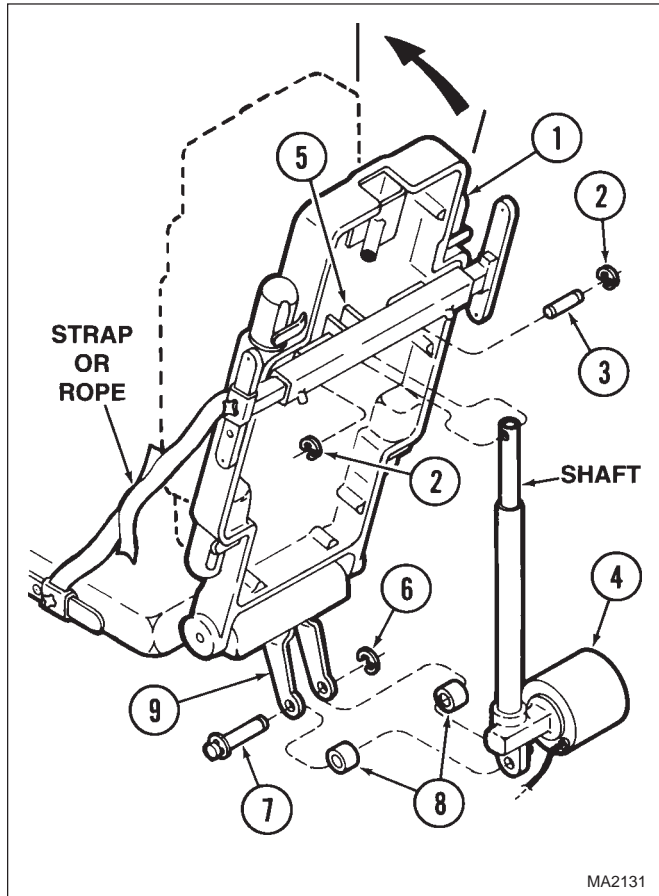

Figure 4-5. Back Actuator Removal / Installation
- (12) While supporting the back casting (1, Figure 4-5), remove two E-rings (2), clevis pin (3), and separate the shaft of back actuator (4) from outer tube weldment (5). Let the back actuator hang from its remaining mounting hardware.
- (1) Install the back actuator (4, Figure 4-5) on back clevis (9) and secure with two plastic spacers (8), clevis pin (7), and two E-rings (6).